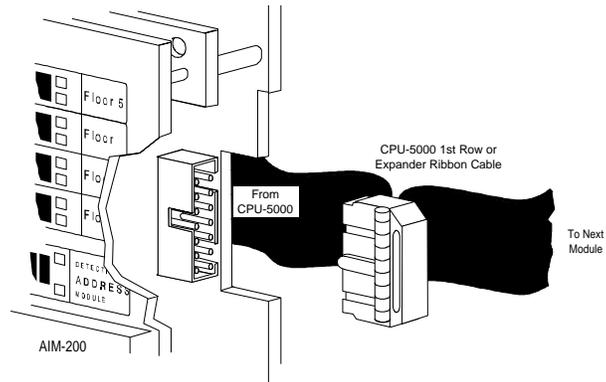

Figure 3-2: Connecting the Ribbon Cable
- 4) Connect the ribbon cable. See Figure 3-2.